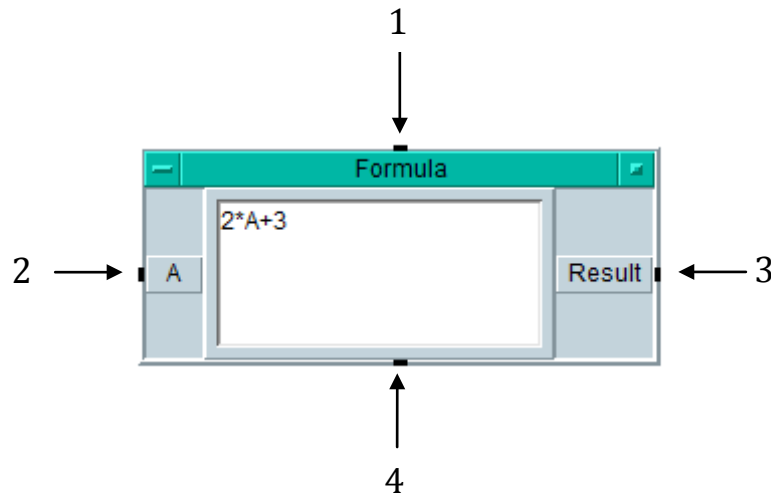

Fig. 1. The pins of an object
In this part, we will examine the pins of the objects in VEE. As an example, consider the formula object given in Fig. 1.
- 2) The small black box corresponding to 2 is the **data input pin**. In Fig. 1, there is only one data input. We can add other inputs if needed. All data inputs should have data before the object operates. Hence, all data input pins should be connected.